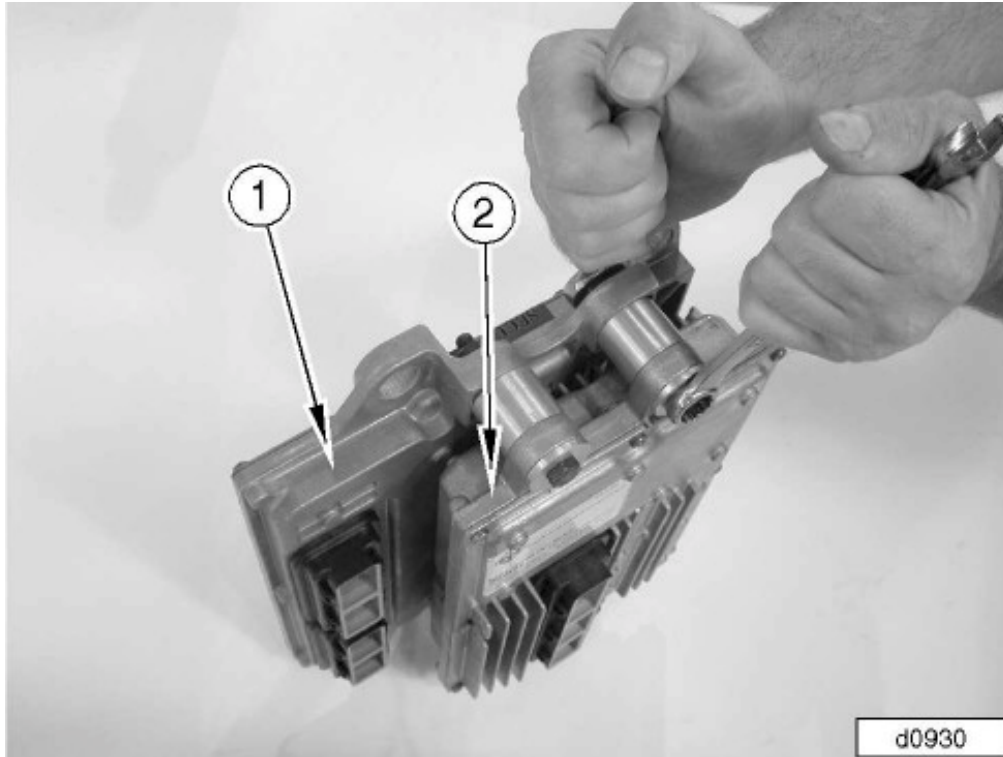

Figure 4: Separating the ECM and the IDM
7. Separate the ECM (item 1) from the IDM (item 2) as shown in Figure 4, by removing the four bolts and spacers. All nuts, washers, bolts, spacers, and pilots must be saved for the reassembly steps. DO NOT remove the grommets and bushings from the ECM. Keep both the IDM and the ECM handy for step 9.